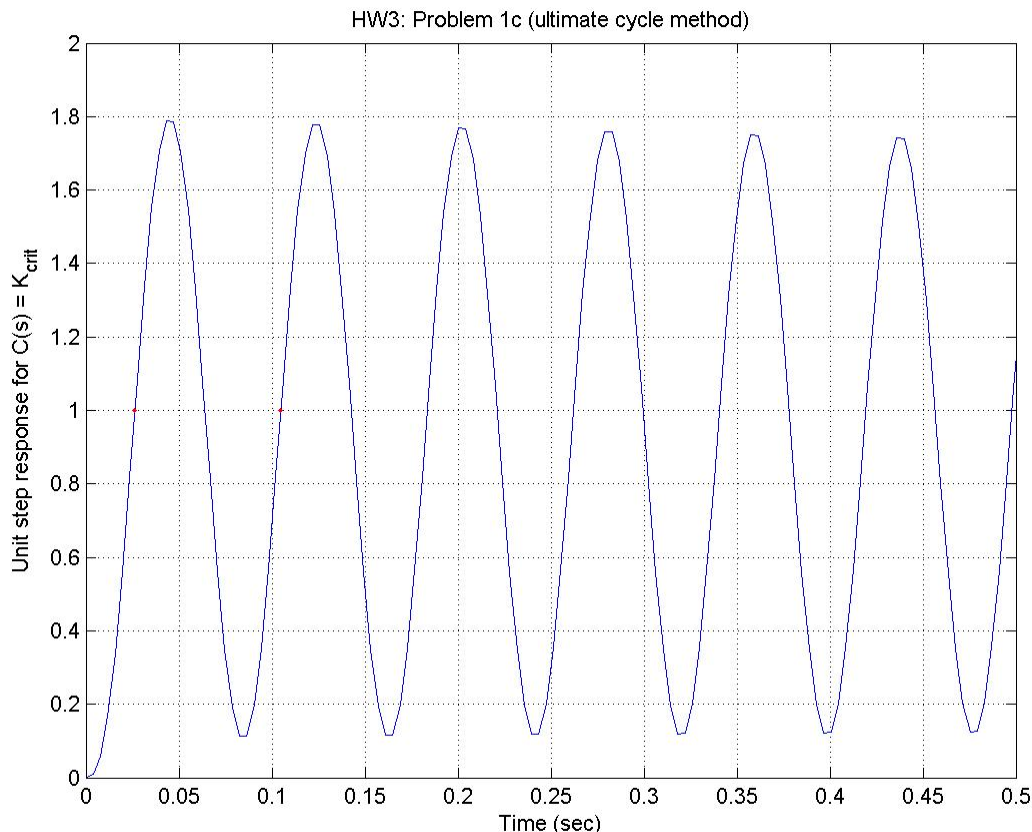

Figure 3.1c – Data for ultimate cycle method. Shown above is the closed-loop response when  $K=97$ .
i) Use the ultimate cycle method to find initial PID gains for the system shown in Figure 3.1c. This figure shows the response of the system when a proportional controller is used with a gain of 97; that is, we may assume here that  $K_{crit} \approx 97$ .